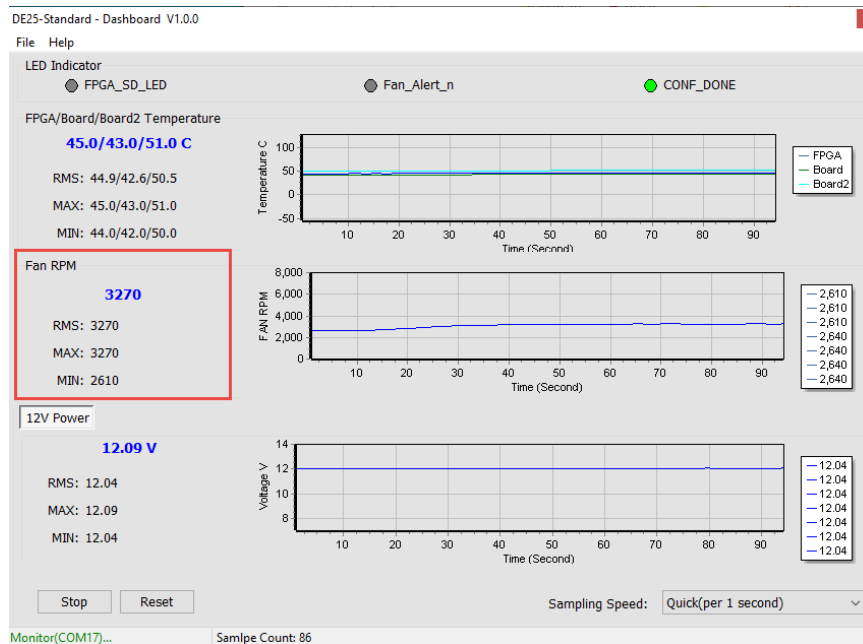

Figure 4-11 FAN RPM section
- **Fan RPM:** This displays the real-time speed of the fan on the DE25-Standard, as shown in Figure 4-11.